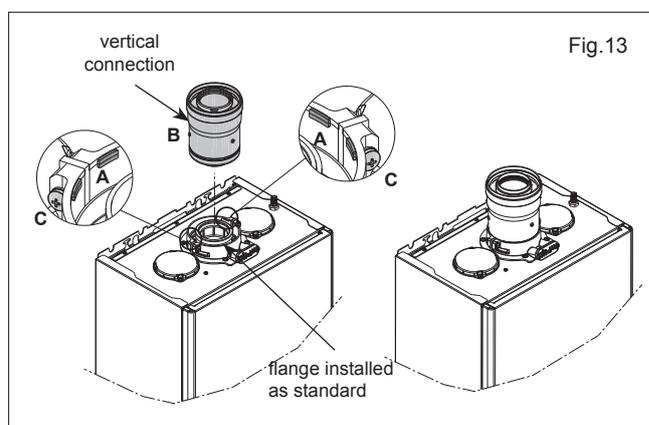

Fig.13
**NOTE (Fig.13):** The appliance incorporates a 'click-fit' flue connection. Ensure that both screws 'C' on the 'click-fit' have been slackened off. Ensure that the connector is correctly aligned with the 'click-fit' and insert it into the 'click-fit' until it clicks into position (this is when the tabs at points 'A' are located in the groove of the vertical flue connector). Both screws (C) should now be tightened.